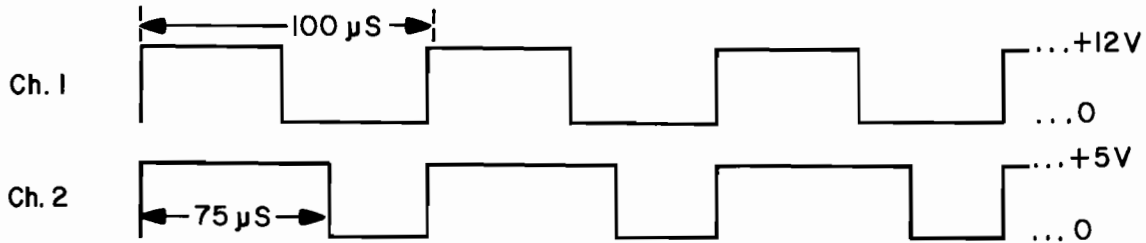

Figure 9-3 Cellular Pulse - Width Calibration
7. Trigger on positive edge of Channel 1 signal. Adjust R6555 so that duration of positive pulse on Channel 2 is 75  $\mu$ s. (See Figure 9-3).